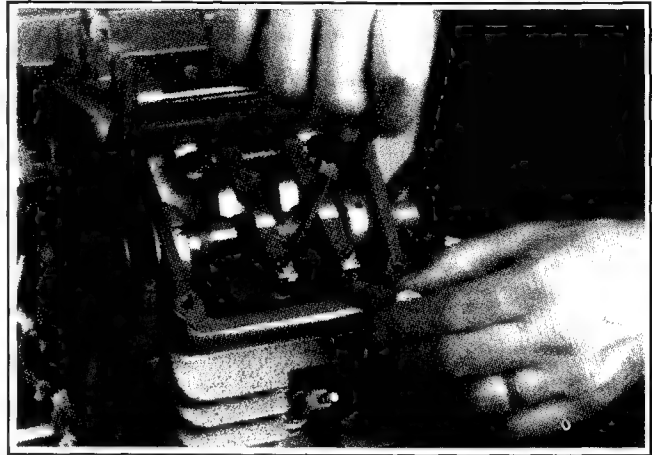

Figure 11-39. Adjusting Valve Clearance. (#1 Shown).
2. Loosen locking nut and screw and insert feeler gauge blade. Clearance should be **0.013/0.064 mm (0.0005/0.0025 in.)** for the intake valve and **0.076/0.127 mm (0.0030/0.0050 in.)** for exhaust valve. Adjust screw in or out until it is the correct clearance, then tighten locking nut. See Figure 11-39.